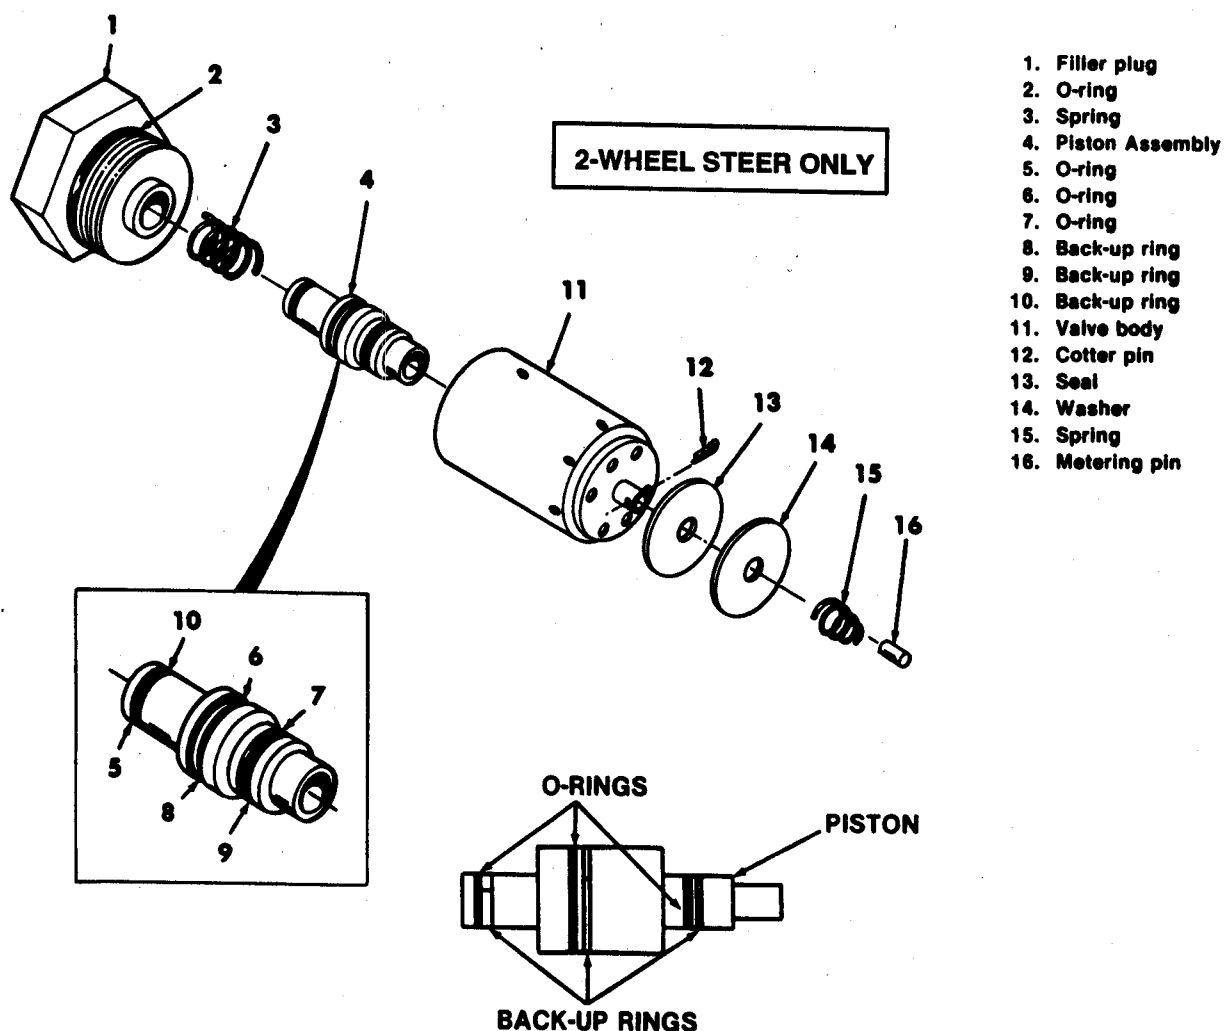

Figure 3. Relief Valve for the Brake Cylinder
1. Install the seal (13), washer (14) and spring (15) on the valve body. Fasten the parts by installing the cotter pin (12).
2. Install new o-rings (5, 6 and 7) and new back-up rings (8, 9 and 10) on the piston. Make sure the back-up rings and o-rings are installed correctly. See Figure 3.
3. Install the metering pin (16) into the valve body.
4. Install the piston assembly (4) and spring (3) into the valve housing.